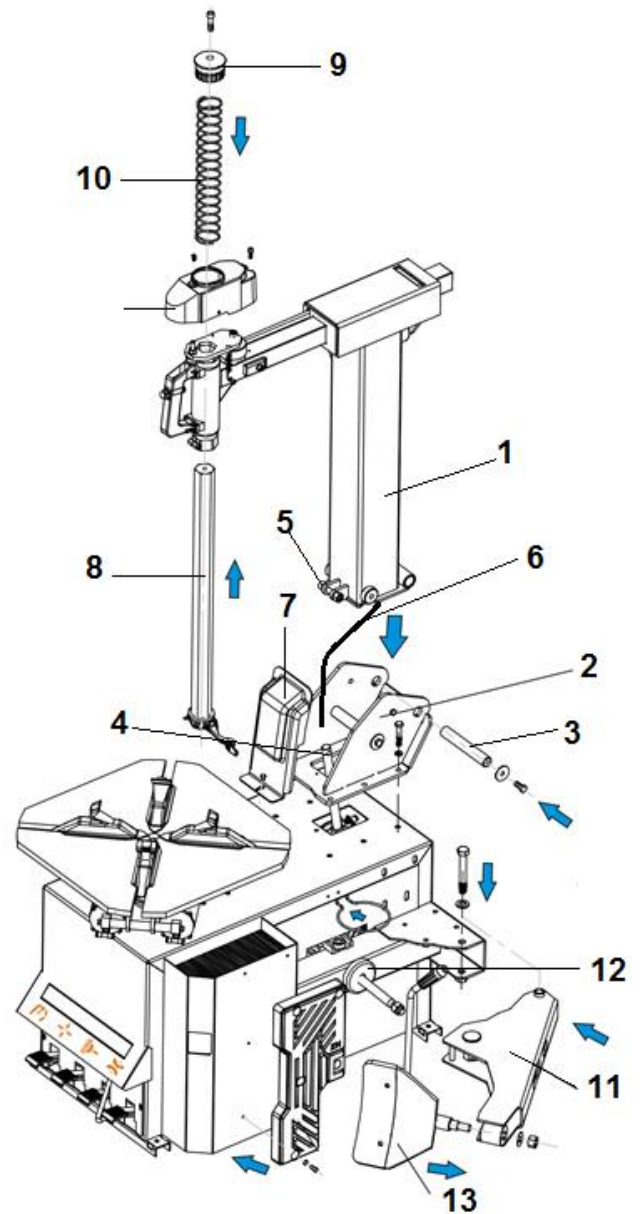

Fig. 4
- Now put the column (1, fig.4) in the square recess (2, fig.4), this can be done in two ways, considering the weight of the column. You can lift the column, using a sling which meets the European standards and that can handle the weight. U could also lift the column on the machine with two persons, make sure you lift from the legs with a straight back.
- Now put the airline (6, fig.4) through the hole in the machine along the backside of pin L (fig.5) to avoid damage to the hose.
- Now remove the side cover of the machine and connect the air line (6, fig.4=1, fig.6) to the regulator (3, fig.6), by pressing the line in the coupler (2, fig.6). Make sure if the line is locked.